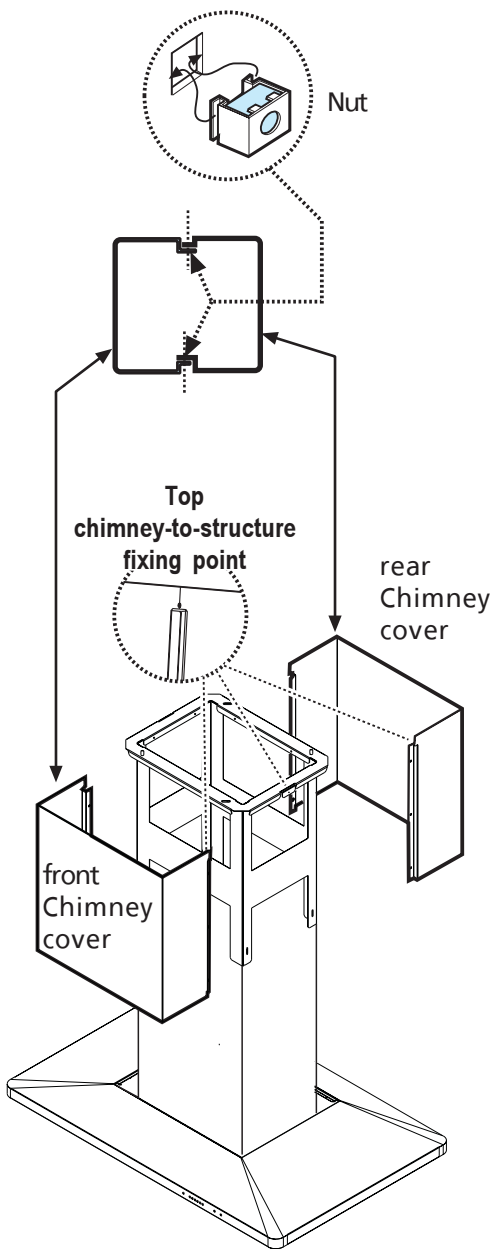

Figure 11
22. Join the two top sections of the chimney covers to cover the chimney structure. Screw the two sections together with 4 screws (2 each side- see the plan diagram for joining the two sections). Figure 11.
23. Fix the covers to the structure, near the ceiling, with two screws (one each side). Figure 11.